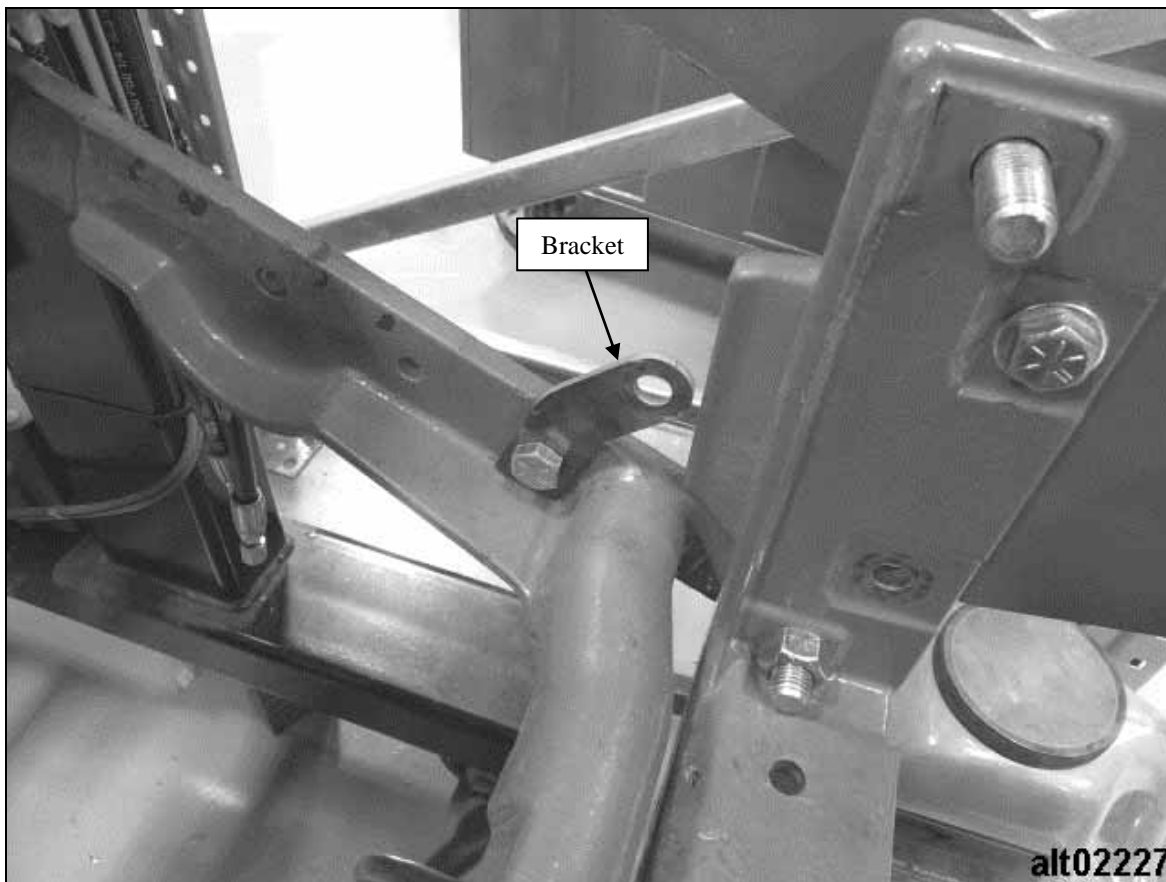

*Figure 4. White chain tensioner and idler*
3. Remove molded plastic chain tensioner and idler from row unit as shown in Figure 4. Chain tensioner and torsion spring will be reinstalled in a following section. Idler will not be reused.